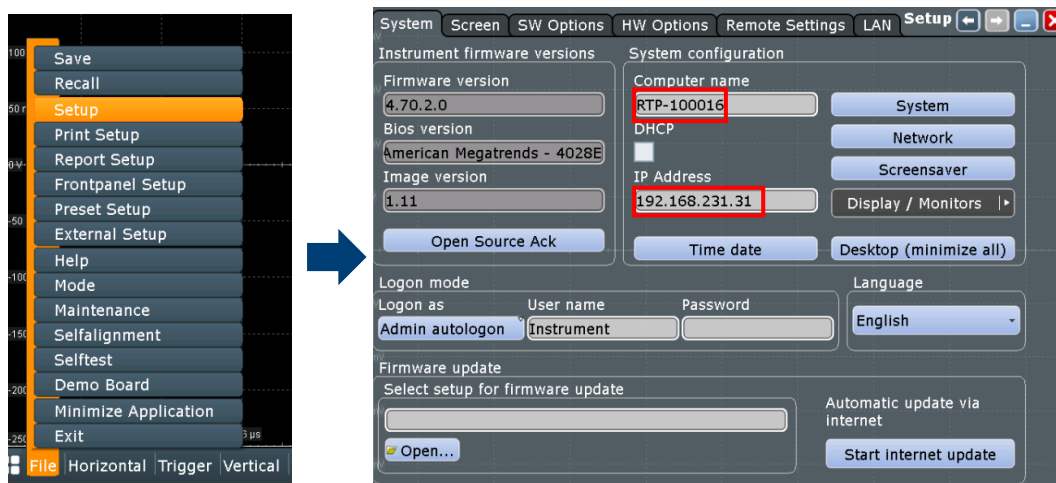
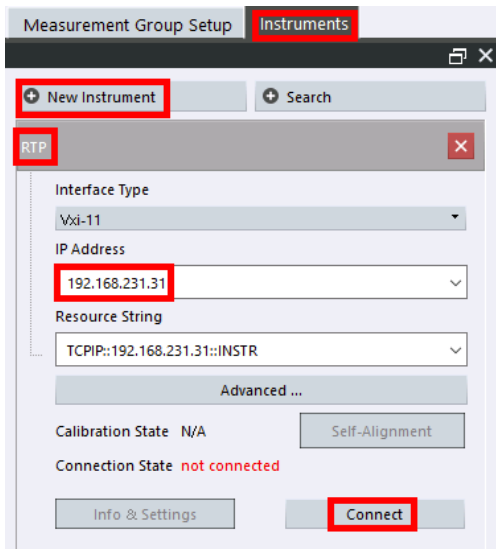

Fig. 3-6: Check computer name and IP address of RTP locally
Fig. 3-7: Create a new instrument, e.g. RTP
2. Enter a name for instrument identity, e.g. RTP. See Fig. 3-7
3. Enter the IP address of the connected instrument in the "IP Address" field. Alternatively, the domain name of the instrument is also accepted in this configuration field. See Fig. 3-7. The way of how to locally check the computer name and IP address on RTP is shown in Fig. 3-6
4. Press "Connect". See Fig. 3-7. VSE is now going to create a remote connection to RTP/RTO